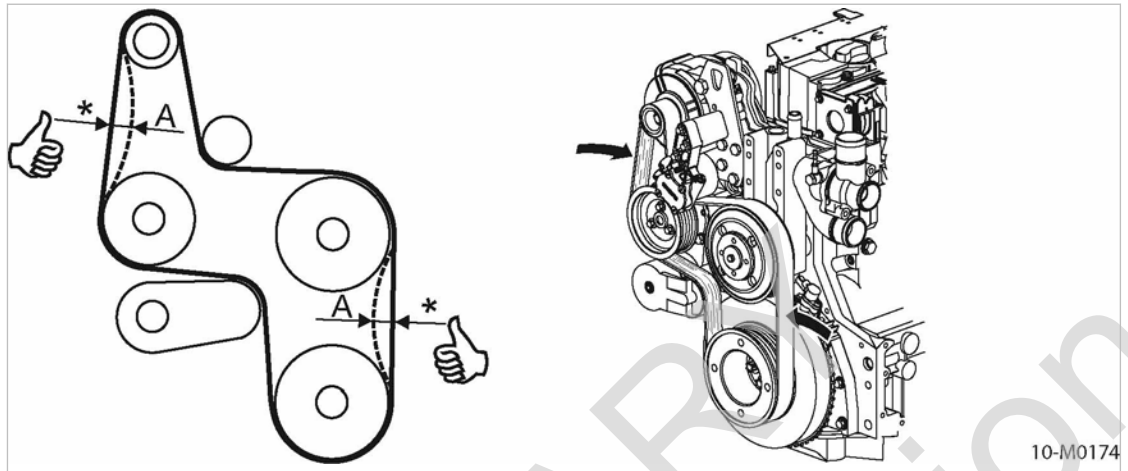

Fig. 51 Manually checking the belt tension
1. Check belt tension with the tension measuring device. 2. Increase the tension on a loose belt.	Press the belts in with the thumb at the mid-point between pulleys. 1. Check belt tension by hand (see Fig. 51). 2. Increase the tension on a loose belt.
3. Check the belt tension (see Fig. 51).